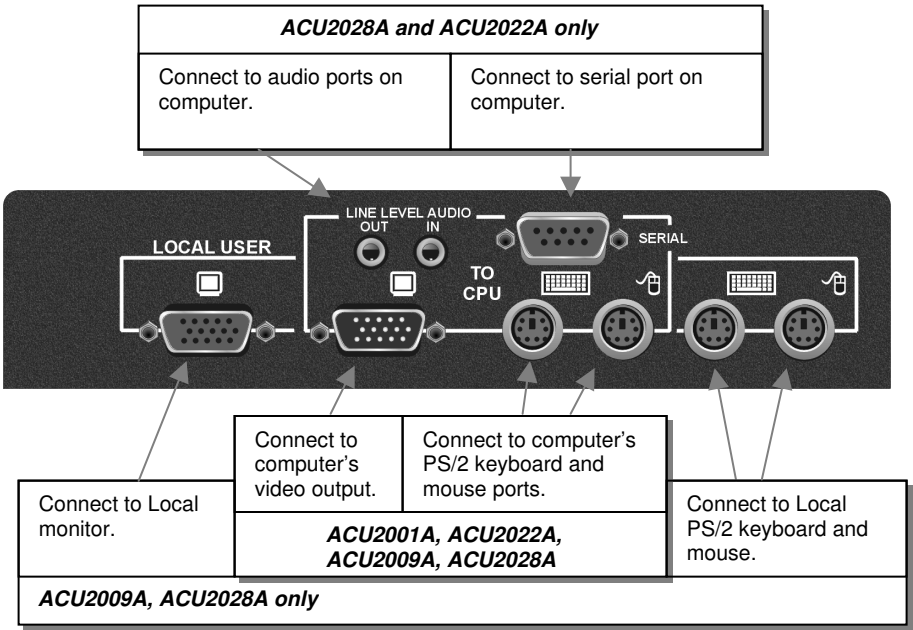
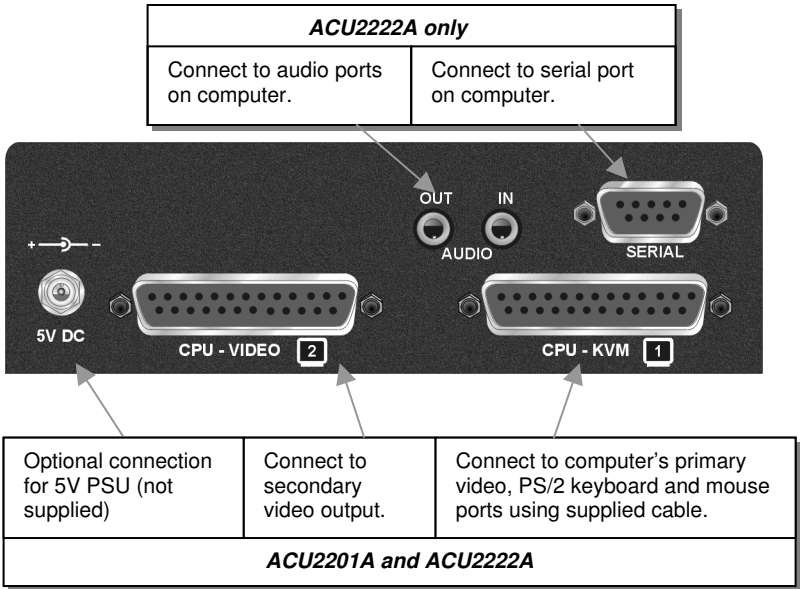

Figure 6
Figure 7
2. Using the supplied CPU KVM cable(s), connect the keyboard, monitor(s) and mouse connectors on the computer (or KVM switch) to the corresponding connectors on the Local unit as shown in Figure 6 for single video units, or Figure 7 for dual video units. Ensure that you attach the keyboard and mouse connectors to the correct ports. The keyboard connector is purple; the mouse connector is green.